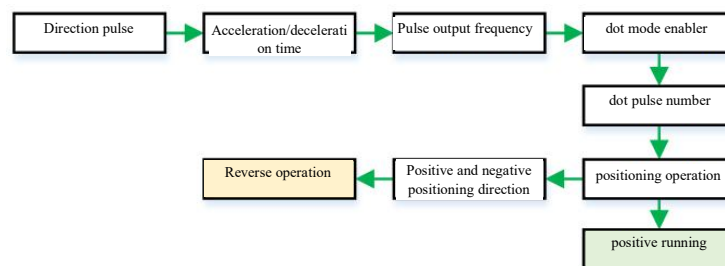

Figure 6-3-4 Configuration of the positioning control mode
- Figure 6-3-4 shows the process for configuring the location control mode